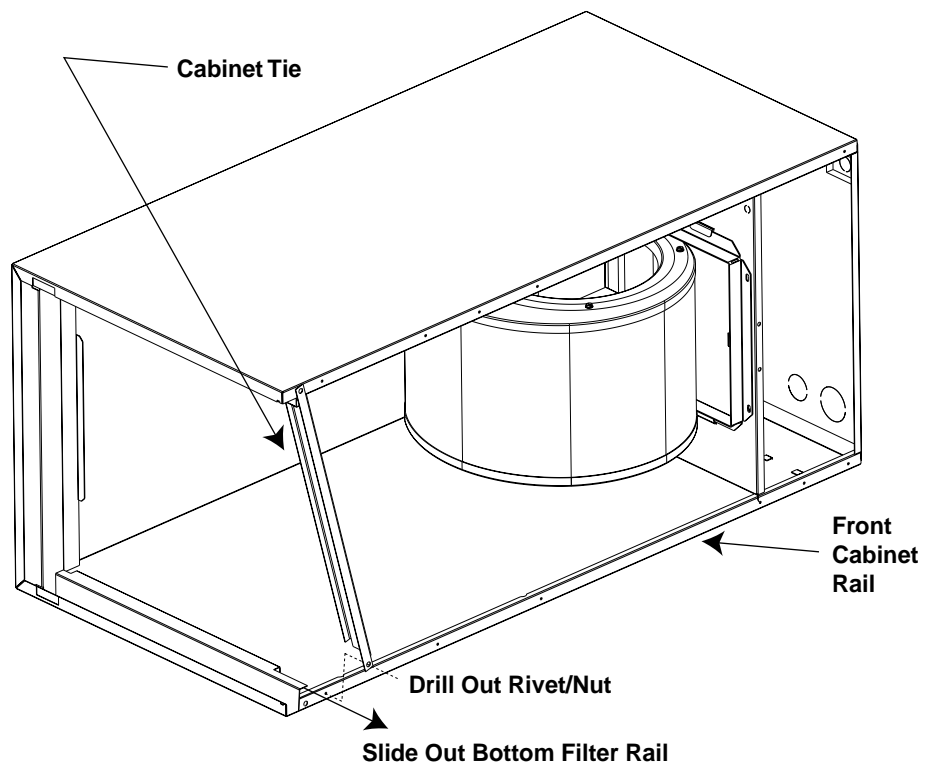

Figure 2.
- c. Slide the lower filter rail straight out of the unit. (See Figure 2.)